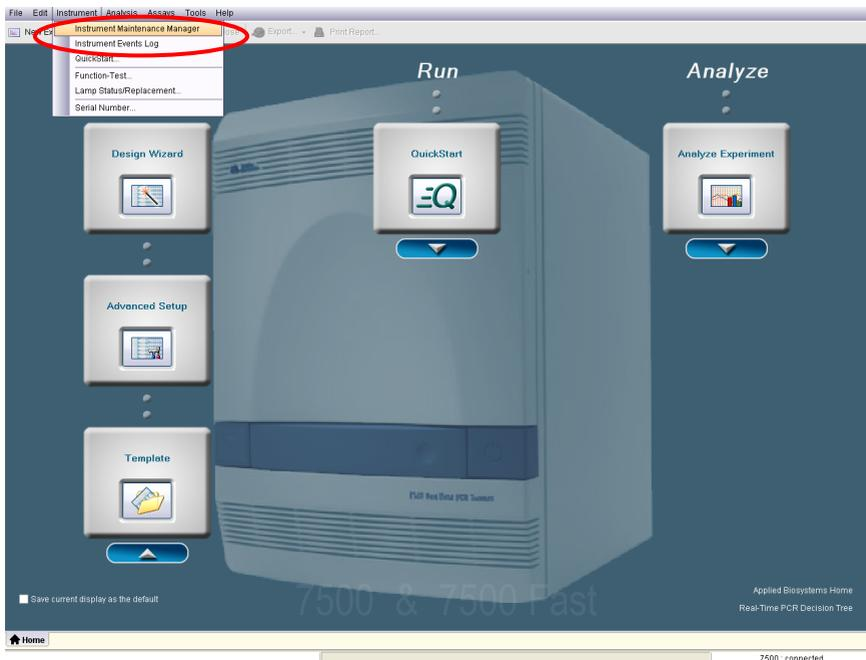

Figure 1. Selecting the Instrument Maintenance Manager.
1. Open the HID Real-Time PCR Analysis Software v1.1 or 1.2 and select the **Instrument Maintenance Manager** from the instrument menu (Figure 1).